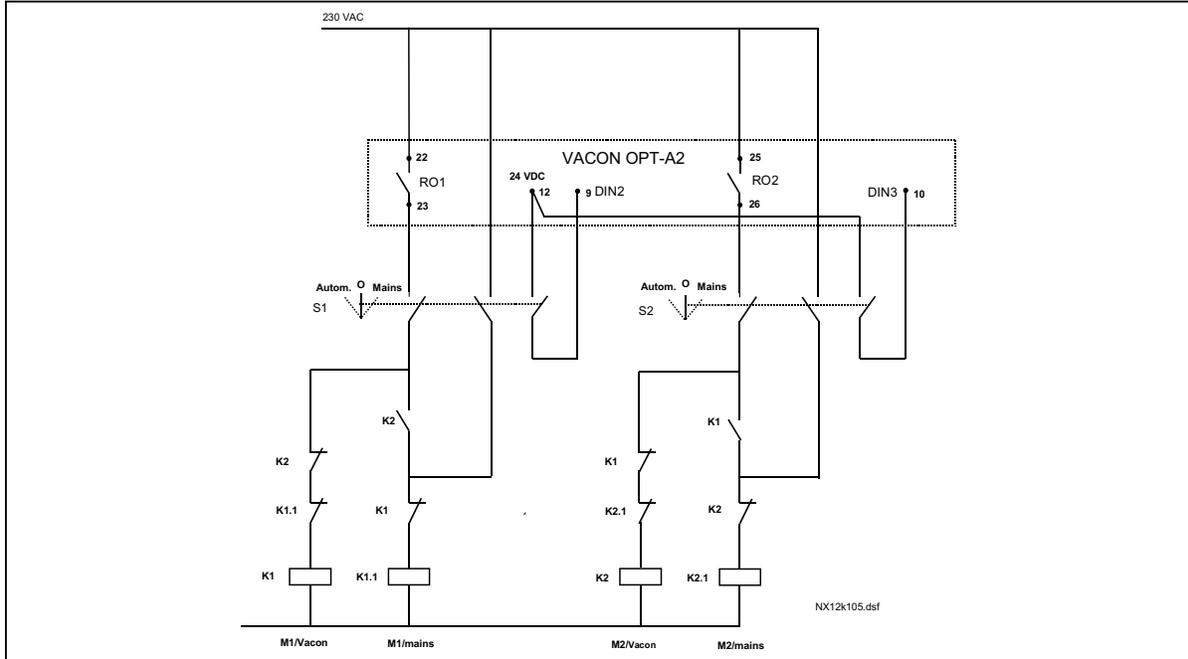
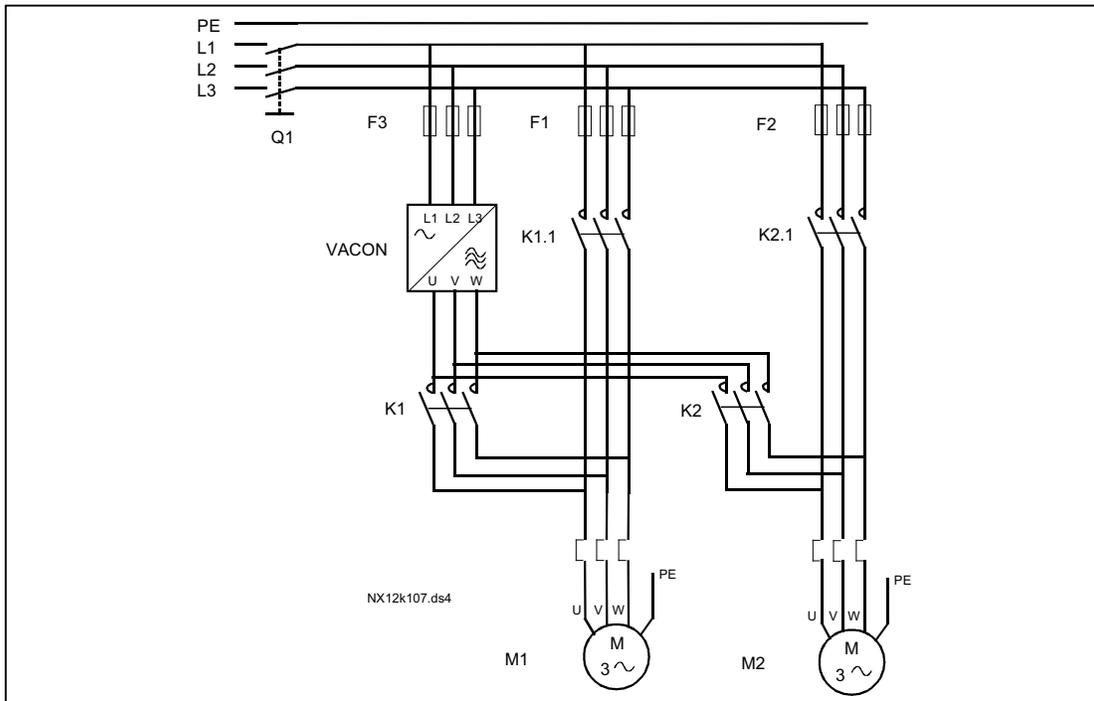
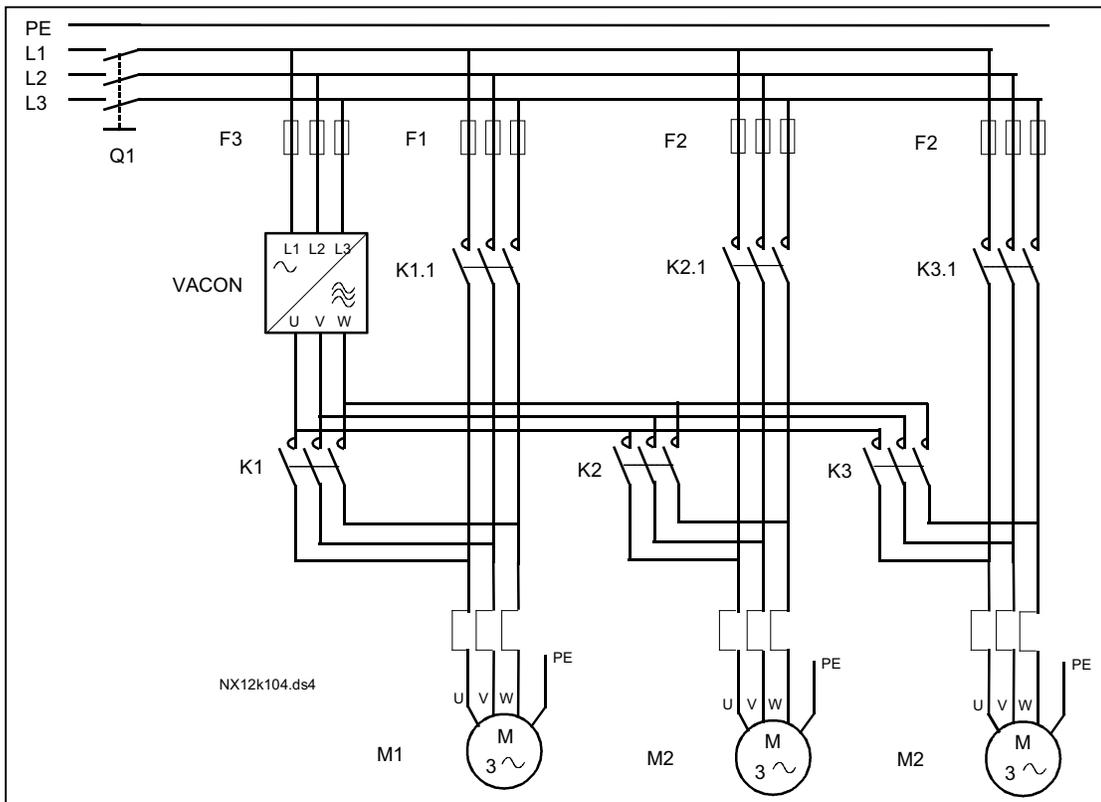

Figure 7-1. 2-pump autochange system, principal control diagram
Figure 7-5. Example of 2-pump autochange, main diagram
Figure 7-6. Example of 3-pump autochange, main diagram
- External contactors controlled through the relay outputs of the frequency converter connect the drives to the frequency converter or to the mains. If the motor controlled by the frequency converter is included in the autochange sequence, it is always controlled through the relay output activated first. The other relays activated later control the auxiliary drives (see Figure 7-5 and Figure 7-6).
The automatic change of starting and stopping order is activated and applied to either the auxiliary drives only or the auxiliary drives **and** the drive controlled by the frequency converter, depending on the setting of parameter 2.9.25, *Automatics selection*. By default, the Autochange is activated for 2 drives. See Figure 7-1 and Figure 7-5.